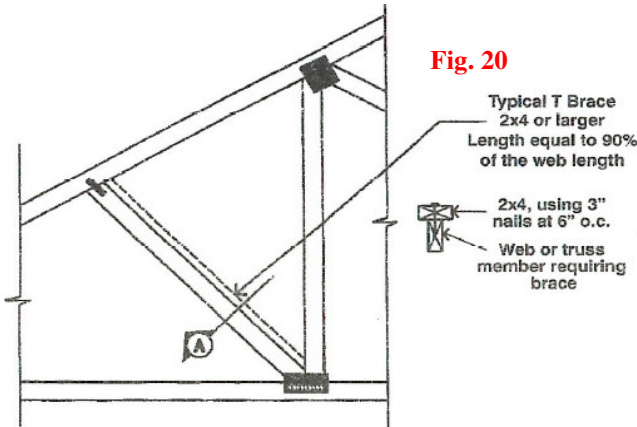

Fig. 20
C) As an acceptable alternative to a) and b) or if there are less than 3 similar trusses in a row, a T-Brace (Fig 20) or scab brace (not shown) may be installed.